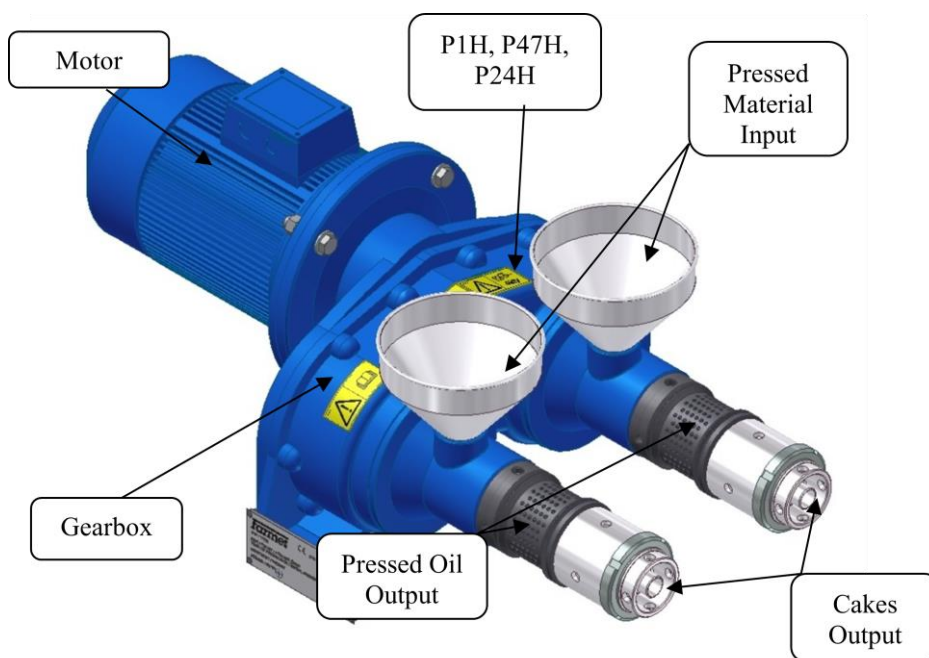
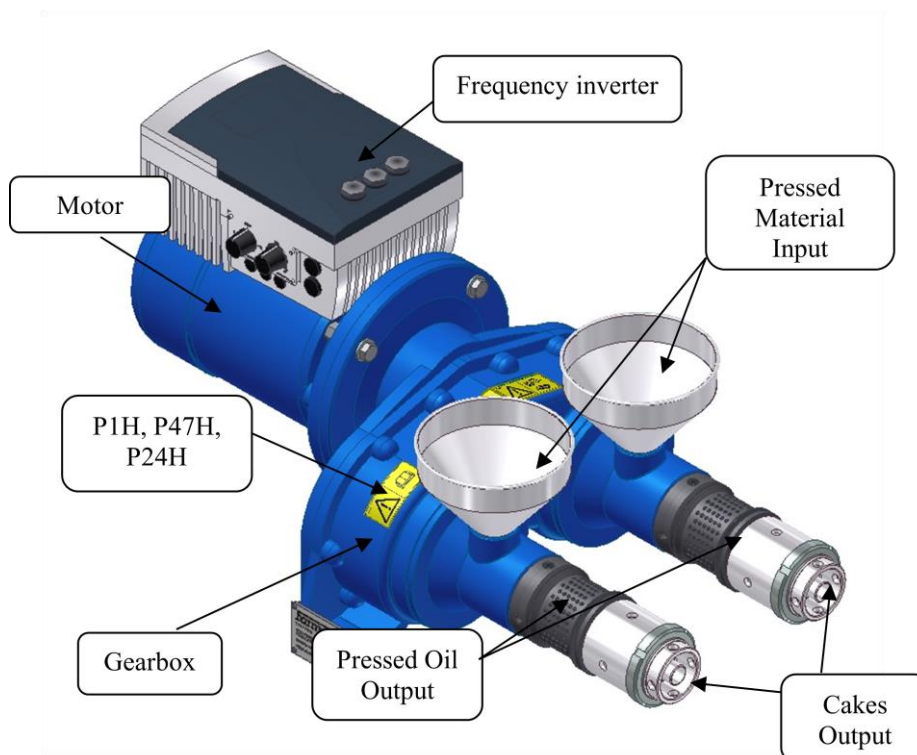

Figure 1 – DUO
Figure 2 - DUO FM
- The position, appearance and exact meaning of work safety labels on the Equipment are given in the following table (*Table 2*) and picture (*Figure 1, Figure 2*).